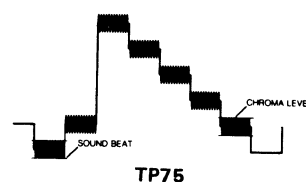

Fig. 7.3
- Adjust the AFT-coil (L711) so that the waveform becomes zero beat (see fig.7.3)